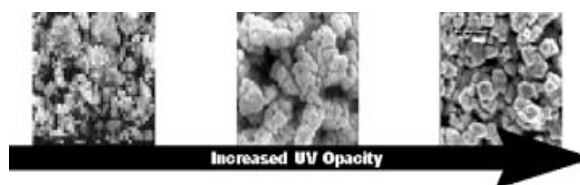

Figure 9
The excellent absorptive properties of the second generation cobalt pigments can be explained by the particle size distribution; the fine and mono-dispersed nature of these pigments explain why the visual and UV opacity can be adapted by sophisticated processing techniques to achieve tailor-made pigments (see Figure 9). The UV opacity benefits, predicted by UV transmission thin film testing in PVDF coil coating, have been verified by subjecting PVDF panels to accelerated QUV(A) weathering (see Figures 10-11).